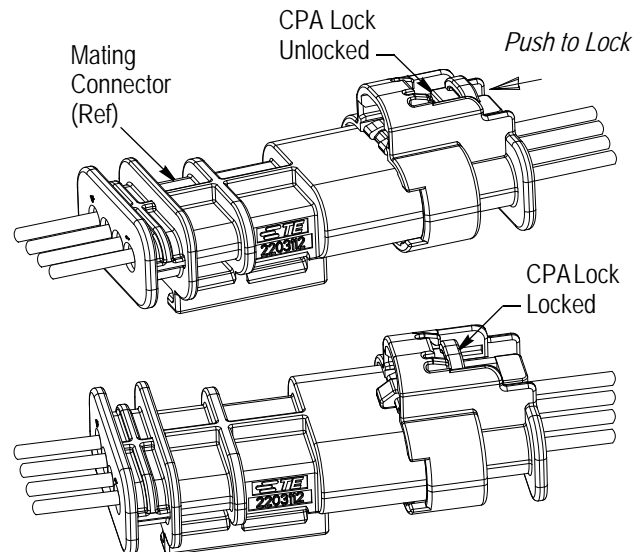

Figure 3
1. Align the connector with the mating connector so that the connector mating latch faces the mating latch of the mating connector, and the key slot faces the key of the mating connector. Then, push the connectors together. Refer to Figure 3.
2. If using the CPA lock, push the CPA lock forward until there is an audible and tactile “click”; locking the connector and mating connector together. See Figure 3. The CPA lock should be easy to engage. It will be difficult to engage if the connector and mating connector are not fully mated.